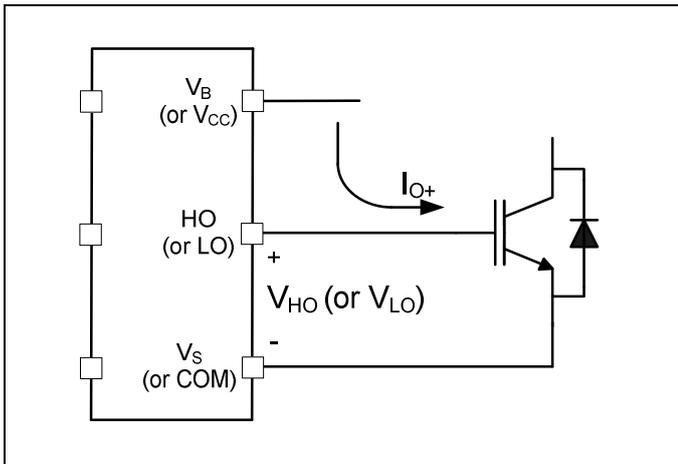
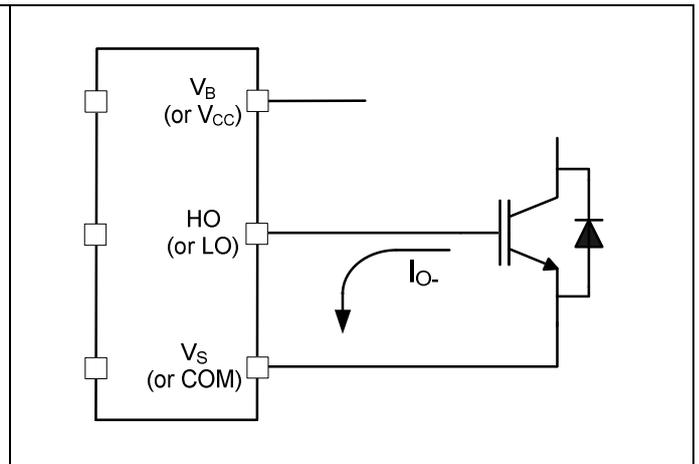

Figure 4 HVIC Sourcing current
Figure 5 HVIC Sinking current
The 2ED2109 (4) S06F (J) HVIC is designed to drive MOSFET or IGBT power devices. Figure 4 and Figure 5 illustrate several parameters associated with the gate drive functionality of the HVIC. The output current of the HVIC, used to drive the gate of the power switch, is defined as I_o . The voltage that drives the gate of the external power switch is defined as V_{HO} for the high-side power switch and V_{LO} for the low-side power switch; this parameter is sometimes generically called V_{OUT} and in this case does not differentiate between the high-side or low-side output voltage.